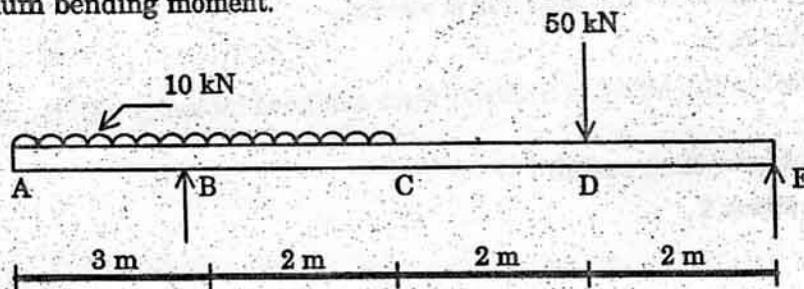

Fig. 3
- IV. (a) Draw SFD and BMD for the beam shown in Fig. 3. Indicate the position and the magnitude of maximum bending moment.